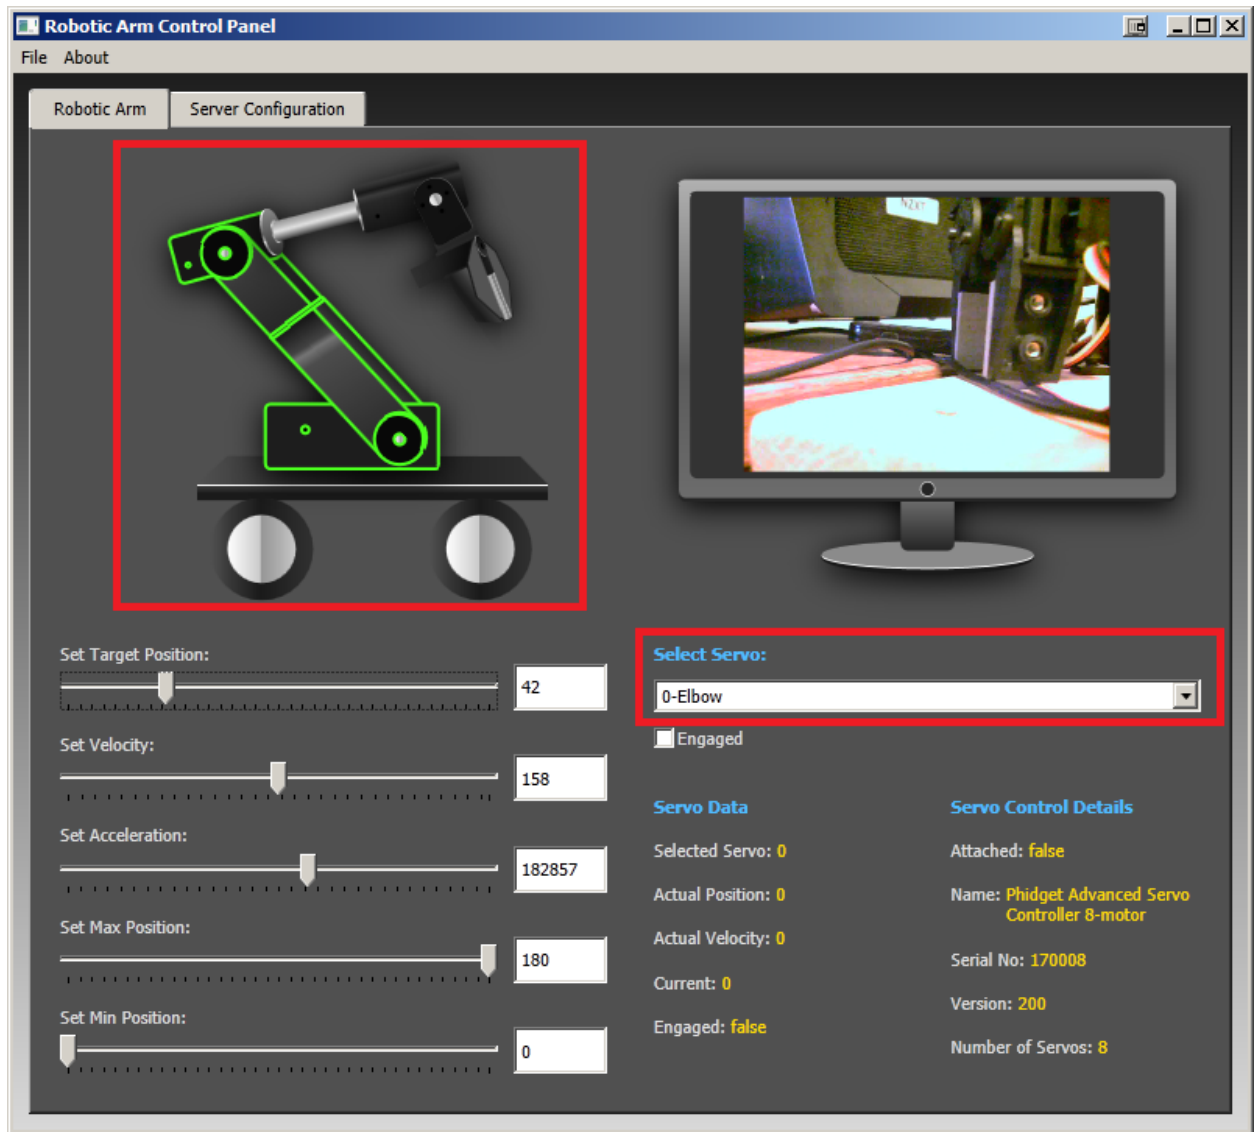

Figure 31
3. Click the “Robotic Arm” tab and select a servo by either left-clicking it in the vector graphic or in the “Select Servo” combo box (Figure 31).